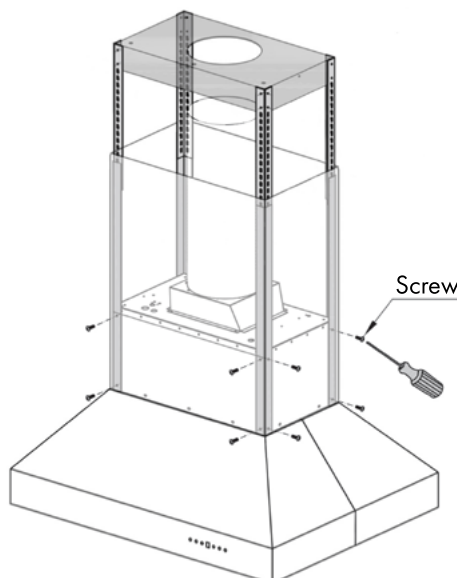

Figure 5
7. Using at least one helper, slide the chimney pieces onto the angle brackets and up to the ceiling in order to install the range hood; use 16 screws (H), 4 for each side, to secure the hood to the bottom of the angle brackets. *Figure 5*